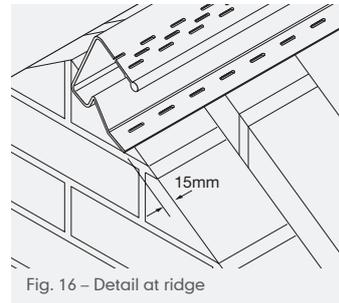

Fig. 16 – Detail at ridge
- When used with the Marley dry ridge system, low profile batten sections should extend 15mm beyond the outer wall or outer edge of the bargeboard (Fig. 16).